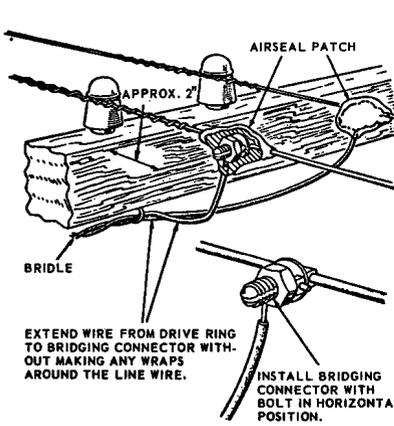

FIGURE 10. Installation of a Bridging Connector.
5.02 *Corrosive Areas*: All connections between open wire and bridling wire in corrosive areas should be made with bridging connectors of the appropriate size, depending on the type and gauge of the main facility. Figures 10, 11 and 12 illustrate the bridging connector and some of its uses.